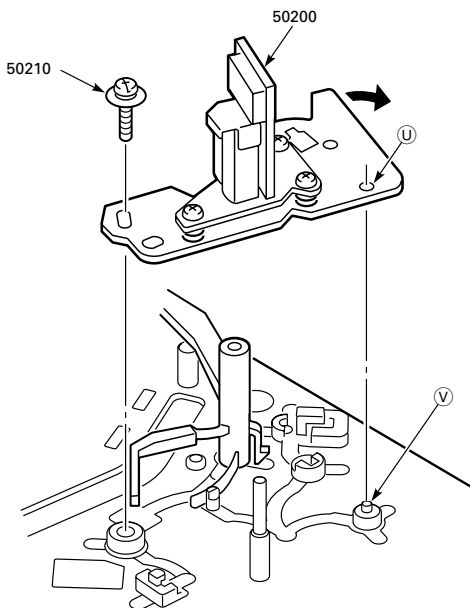

Fig. 8.36
- Undo the screw (Pos. 50210), press the R/P head assy (Pos. 50200) in the direction of the arrow as shown in Fig. 8.36 and remove it upwards.